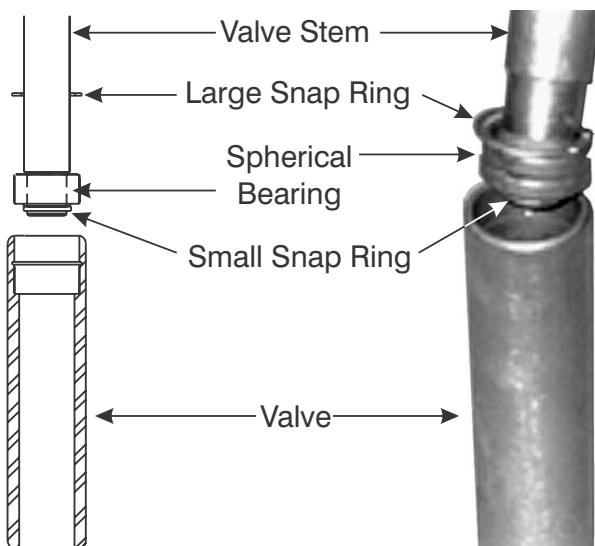

Figure 8-30. Remove the Valve from the Spherical Bearing.
5. Pull the Valve (1) from the Spherical Bearing (2) and Valve Stem (5). If necessary, use a hammer with a plastic head to drive the Valve off the Spherical Bearing. Refer to Figure 8-30.